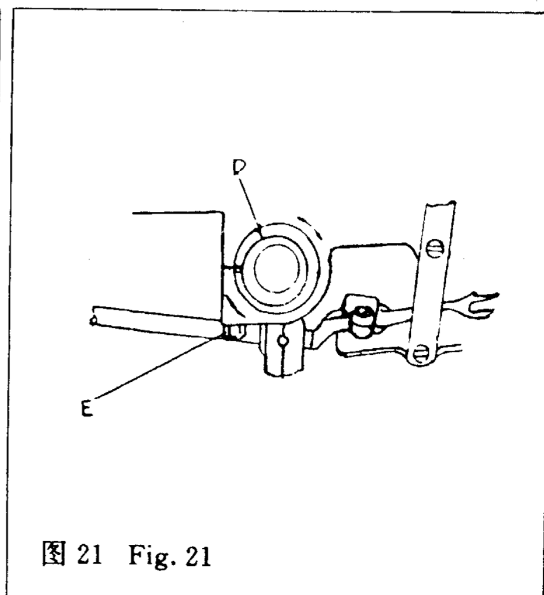

图 21 Fig. 21
- ① 旋松紧固螺栓“E”，左右移动偏心支承套“D”，达到上述要求时，旋紧紧固螺栓“E”(图 21)。
- ① Loosen set bolt "E", move the eccentric supporting sleeve "D" rightward and leftward, and tighten the set bolt "E" (Fig. 21).
① 旋松紧固螺栓“E”(图 21), 周向转动偏心支承套“D”, 使钩线叉在右端时达到上述要求。
① Loosen set screw "E" (Fig. 21) and turn the eccentric supporting sleeve "D" so that when the thread hook is at the right end may comply with the above-said requirements.